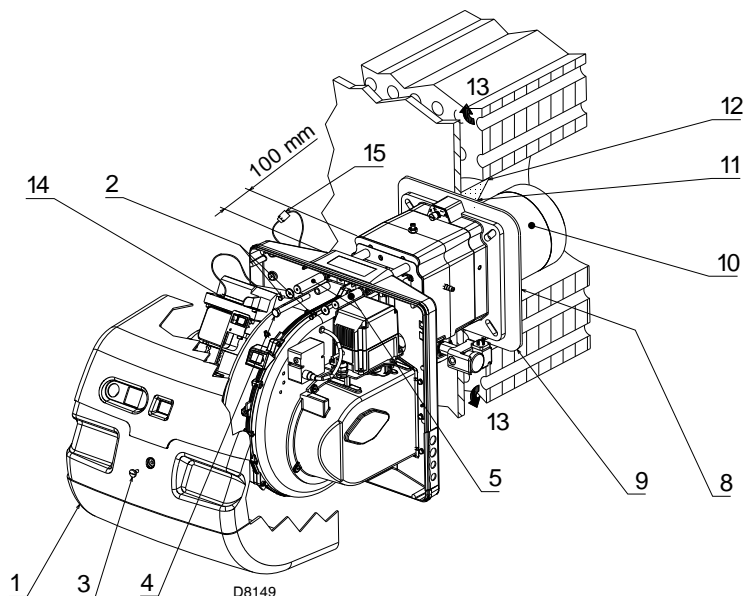

Fig. 13
For boilers with front flue passes 13), a protection in refractory material 11) must be inserted between the boiler refractory 12) and the blast tube 10). This protection must not compromise the extraction of the blast tube. See Fig. 13.
Separate the combustion head from the rest of the burner, Fig. 13.
Fix the flange 9)(Fig. 13) to the boiler plate, interposing the supplied insulating gasket 8)(Fig. 13).
- reassemble the burner on the guides 3) at about 100 mm from the pipe coupling 4) - burner in the position shown in Fig. 13;
- connect the plug of the servomotor 14)(Fig. 13) and tighten the grommet 15)(Fig. 13);